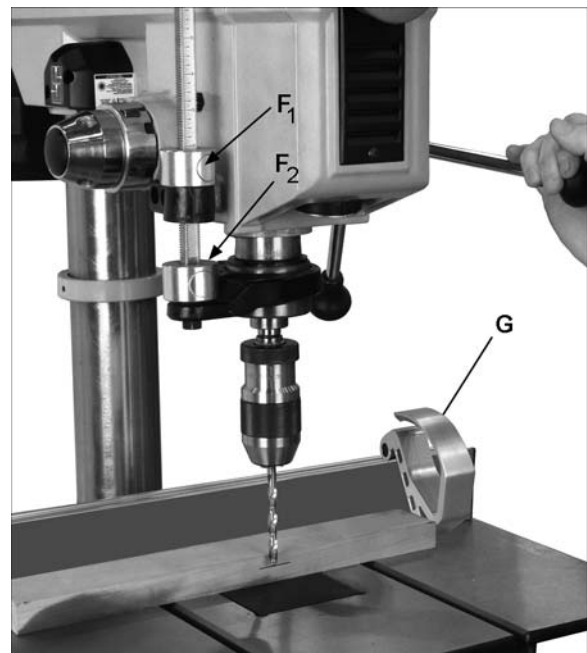

Figure 19
Referring to Figure 19:
- For less precise drilling, simply lower bit to desired depth, as shown in Figure 19, and slide top nut down to contact collar.
The work stop (G, Figure 19) is used for repetitive drilling in boards of identical length. Flip up the work stop to slide it along the fence or to remove it. Pull it down to tighten in position.